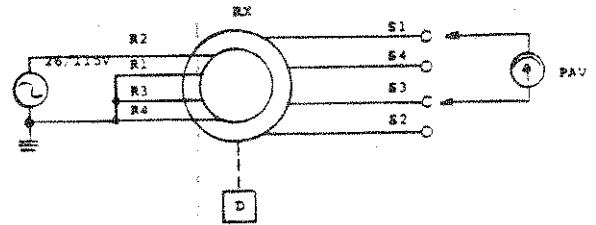

Figure 7-18. Null Test (RX)
- Set up equipment as shown in figure 7-18.